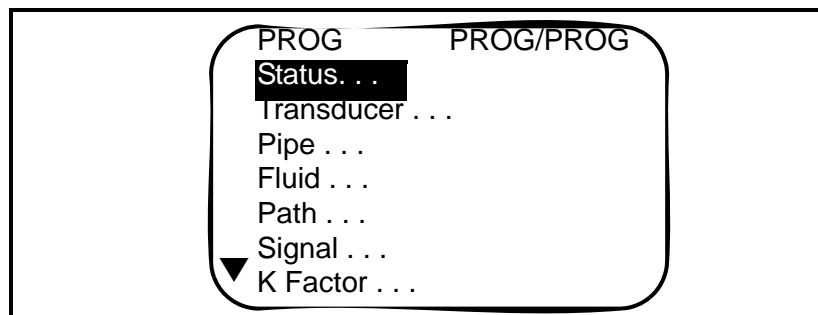

Figure 2-4: The PROG Menu
3. Use the [▲] and [▼] keys to scroll to the desired channel and press [ENT]. The screen appears similar to Figure 2-4 below.